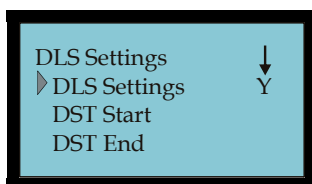

Figure 2-94 DLS Settings
2. Press **OK** to display the DLS Settings menu (see **Figure 2-94**) and select DLS Settings.